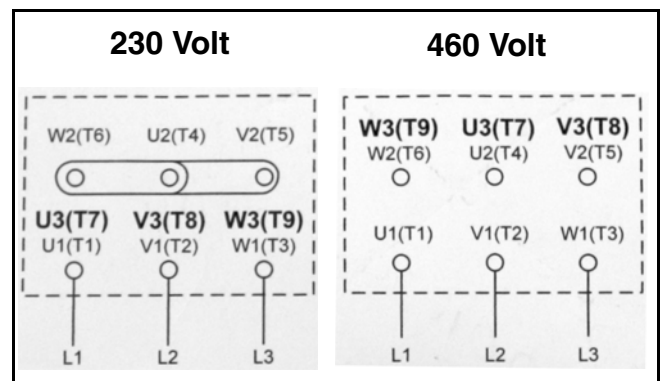

Figure 13
- Determine wiring configuration (**Figure 13**).